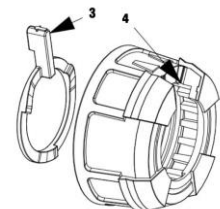

Fig. 3
3. Place the jet width adjusting lever (#3) into the union nut (#4). Make sure the recess of the union nut meshes with the recess on the jet width adjusting lever (Fig. 3).